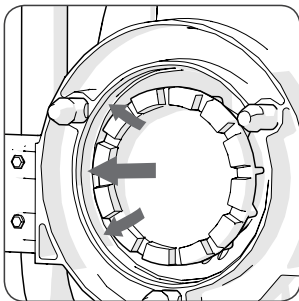

Fig. 6
- Keep the annular rings scrupulously clean and free from debris (Engine & Accessory). **(Fig. 6)**